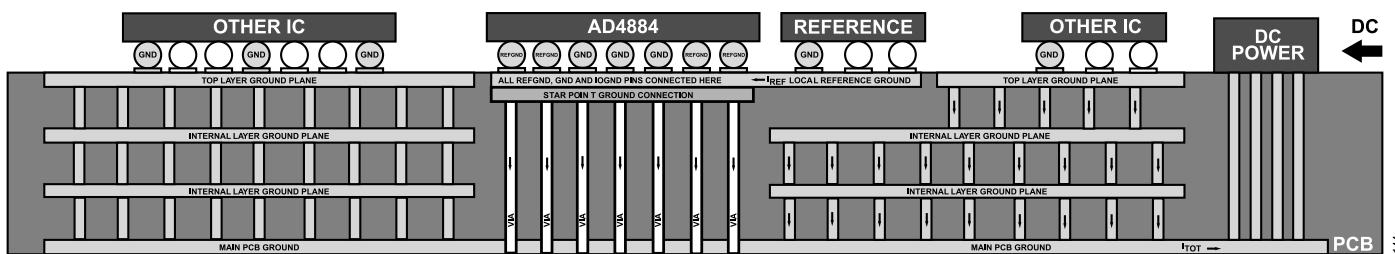

Figure 145. Recommended PCB Ground Planes Layout
- For the side view cross-section of the PCB board showing the ground planes distribution, see Figure 145. Note that Figure 145 only shows the ground planes but does not include the signal tracks.